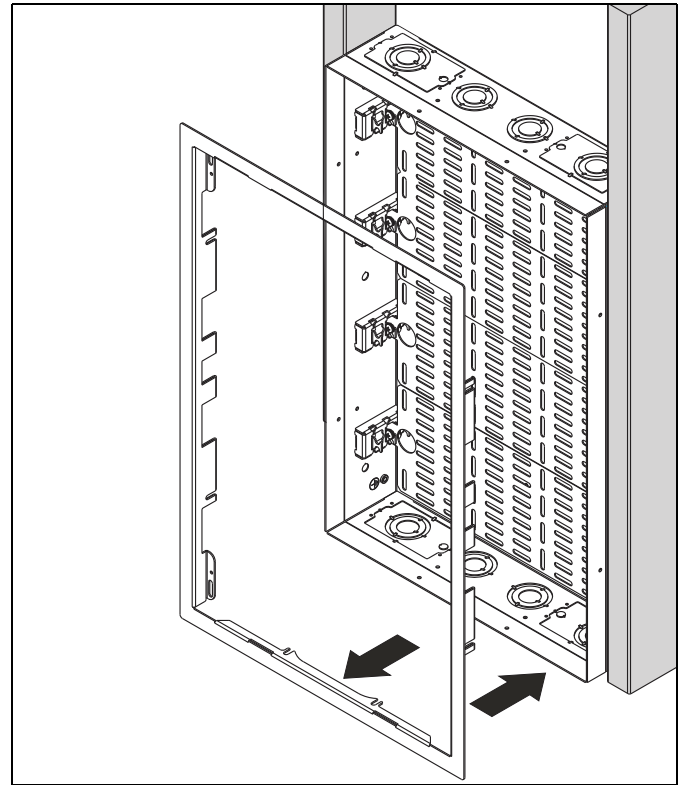

Figure 9
**NOTE:** If installing in a stud wall BEFORE the drywall is installed, remove outer flange from PAC527 before installing the PAC527. (See Figure 9)